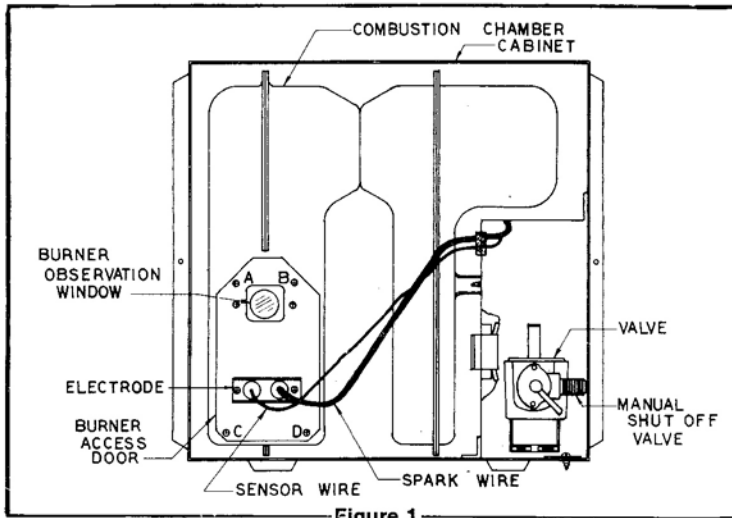

Figure 1
NOTE: To observe flame, remove front discharge grille. Operation of burner can then be observed through the viewing window on front of chamber (see Figure 1).
2. Turn main gas valve control knob to the 'OFF' position. (See Figure 1.)
5. Allow blower to run for five (5) minutes for combustion chamber purge cycle.
6. After five (5) minutes, set thermostat below room temperature.
7. Turn main gas valve control knob to 'ON'. (See Figure 1.) Correct operating characteristics depend on valve being positioned fully open. Never attempt to operate furnace with valve partially closed. Valve is fully open when handle is parallel to gas line.
11. If after three (3) attempts with no ignition, go to shutdown and contact a qualified service agency. Do not continue to cycle furnace through thermostat in an attempt to get ignition.
1. Turn main gas valve control knob to 'OFF'. (See Figure 1.)
4. Inspect main burner by removing the four (4) screws (A, B, C, D) securing the burner access door to the combustion chamber. (See Figure 1.) If excessive rust and corrosion are present on burner surface, the burner must be cleaned or replaced. The burner may be cleaned with a steel wire brush and the burner ports and venturi blown clean using compressed air.